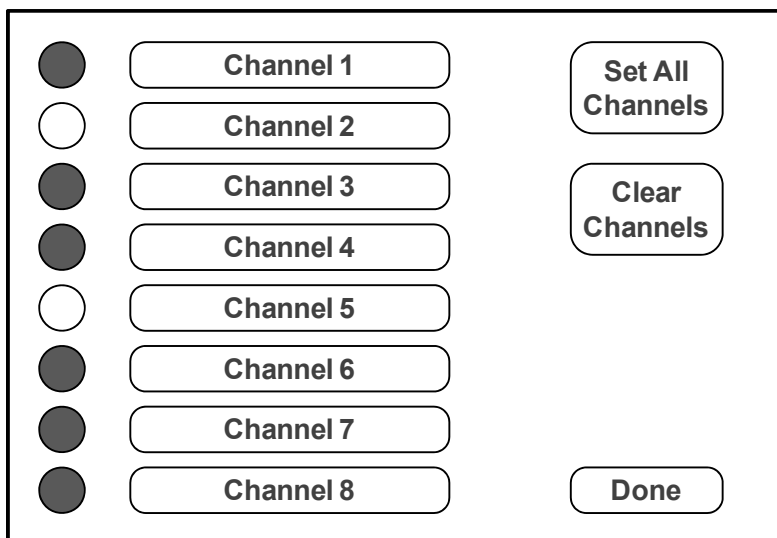

Figure 12. The GELFREE 8100 Fractionation Station Channel Screen.
2. Select the channels to run in the cartridge by pressing the 'Channel' button on the Main Screen. This will bring up the Channel Screen (Figure 12). Select the combination of channels to run during the experiment by pressing the corresponding channel button (e.g. 'Channel 1'), or press